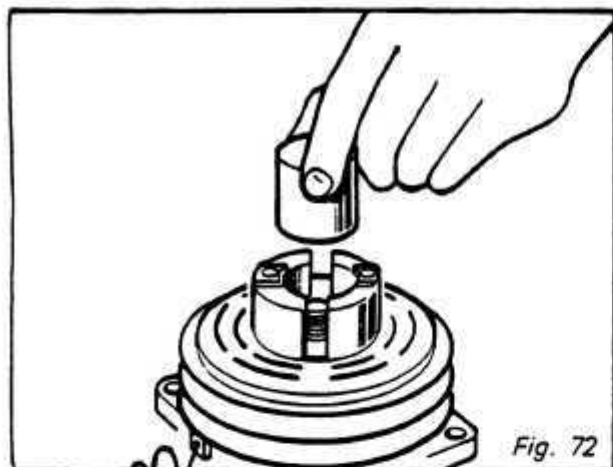

Fig. 72
- Insert the lip of the lip of the jaws into the snap ring groove. (Snap ring removed in Step 4.) Place rotor pulley shaft protector (Puller set) over the exposed shaft. *Fig. 72*